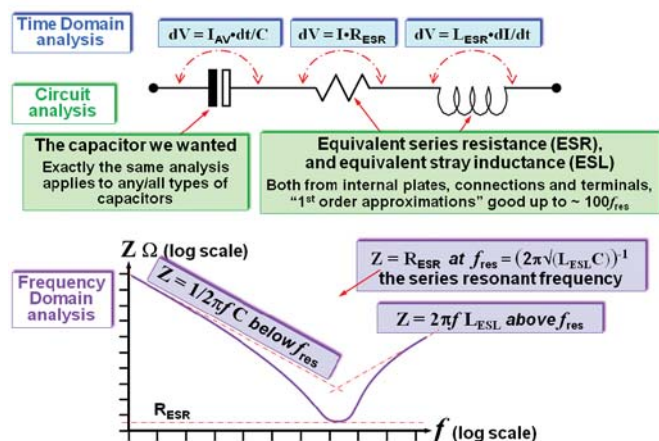
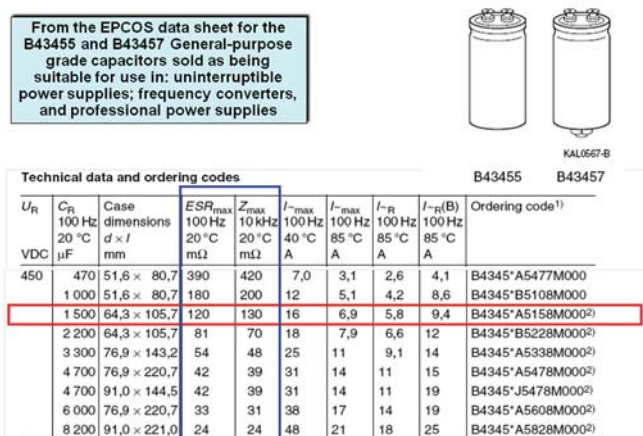
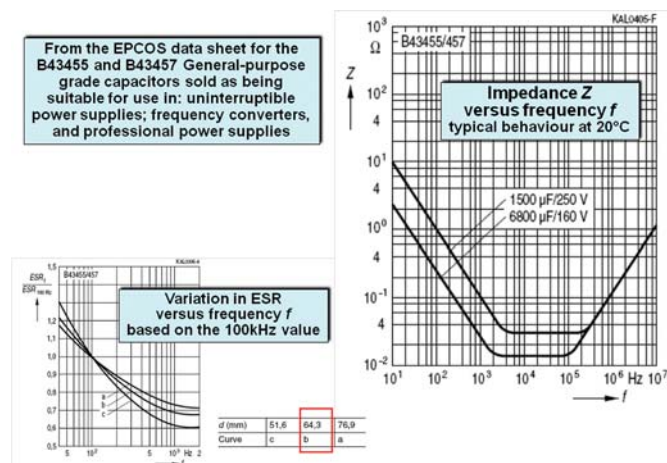

Figure 7.6-5 A 1st-order equivalent circuit showing that real capacitors are complex
Figure 7.6-7 Some data on the EPCOS B43455 capacitor range
Figure 7.6-8 Variation of overall impedance with frequency, for the B43455 capacitor range
But a capacitor is not simply a capacitor! Real components are never ‘pure’ – as simple circuit simulators assume – and Figure 7.6-5 shows a 1st-order approximation of what we actually get when we purchase a capacitor, rather than an idealised capacitor that cannot possibly exist in this universe. This figure is based on an electrolytic capacitor, but exactly the same analysis applies to all non-polarised capacitors too.
The circuit analysis in Figure 7.6-5 shows that the real capacitors that we assemble our products from all suffer from “pollution” caused by their Equivalent Series Resistance (ESR) and Equivalent Series Inductance (ESL). The simplified time-domain and frequency-domain analyses on this figure show what we should expect when we pass switching currents through capacitors.
From Figure 7.6-5 we can see that the overall impedance of a capacitor, Z_{CAP} , is:
Let’s take a practical example of a capacitor that – at the time of writing – is supplied as being suitable for use as the DC-Link in a switch-mode power converter, the EPCOS (TDK) B43455A5158M000: 1,500 μF , 450Vdc, rated 10,000 hours life at 85°C , aluminium electrolytic with screw terminals, see Figure 7.6-7. Please note that I am not recommending this type of capacitor, it’s just the first one I came to when flicking through a distributor’s catalogue to find an example to use in this article.
Knowing the currents at the fundamental and harmonic frequencies, we *could* calculate the various contributions to the ripple noise voltage across the 1500 μ F capacitor from the three components of the 1st-order approximation equivalent circuit shown in Figure 7.6-5, remembering to take into account their various phase angles. Instead, EPCOS have provided us with a handy graph of overall capacitor impedance (Z) versus frequency, which is copied in Figure 7.6-8. This graph implies an ESR of about 30m Ω , an ESL of about 16nH, and although the series-resonant frequency would be expected to occur around 32kHz, the graph shows that it actually occupies quite a wide range, approximately from 3kHz to 200kHz.
However, the source impedance of the DM ripple noise voltage is the impedance of the DC-Link capacitor at the frequency concerned, which we can see from Figure 7.6-8 is always less than 3 Ω between 100Hz and 30MHz. So we can assume that the noise voltage on the DC-Link capacitor will not be significantly attenuated by the LISN's 50 Ω , and will be what is measured by a receiver or spectrum analyser.
Table 7.6-1 is not precise, and I am particularly worried by the fact that the datasheet lists the 1500 μ F capacitor's Z as being a maximum of 130m Ω at 10kHz (see Figure 7.6-7) whereas the graph provided by the same datasheet (see Figure 7.6-8) shows it as typically being about 30m Ω at 10kHz.
For example, paralleling four 1500 μ F B43455 capacitors to give us 6,000 μ F should result in an impedance versus frequency curve that is one-quarter of the 1500 μ F curve in Figure 7.6-8 over the entire frequency range to 30MHz, whereas the single 6800 μ F capacitor in that same range only shows an approximately quarter impedance up to 200kHz.
This can be done by making these non-idealities part of the component specifications, so that each time we add a capacitor chosen from the component library we actually import a complex circuit like that shown in Figure 7.6-5. Alternatively we can actually draw the 1st-order approximated circuit for each component and enter the appropriate values for ESR and ESL.